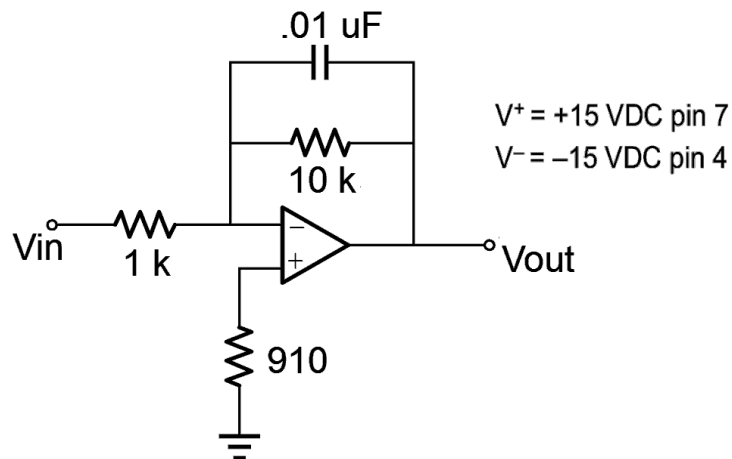

Figure 1
1. Derive the equation for V_{out} for the circuit of Figure 1. Calculate the lowest usable (“integratable”) frequency, f_{low} . Record these items in Table 1.